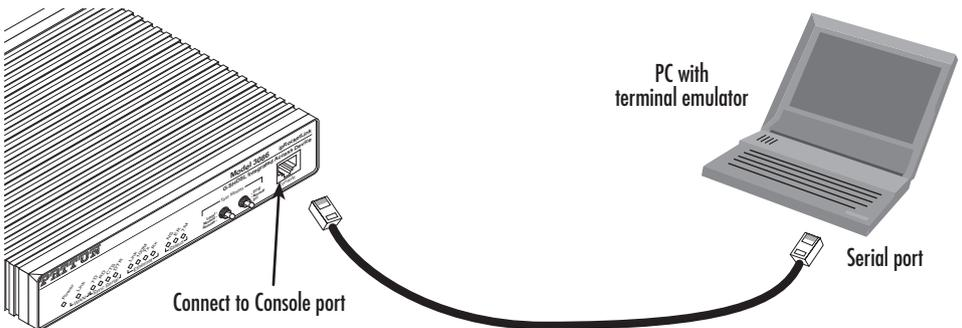

Figure 1. Connecting ipRocketLink to the PC's Ethernet port
1. Using the included combination RS232/Ethernet cable and DB9-RJ45 adapter, connect a PC's serial port to the ipRocketLink's *Console* port (see **figure 1**).